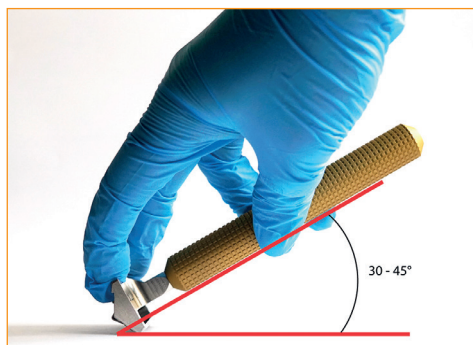

Figure 4. Usage of the Dermatome
- When cutting, pull the Dermatome Head backwards while applying pressure evenly over the tissue at an angle of 30 to 45 degrees. (Figure 4).
- NOTE:** For optimum cutting results and minimum resistance it is recommended (1) to keep the skin slightly tightened and (2) to moisten the skin with water, saline or oil. If the Dermatome is used in combination with the MEEK Micrograft technique do not use oil.